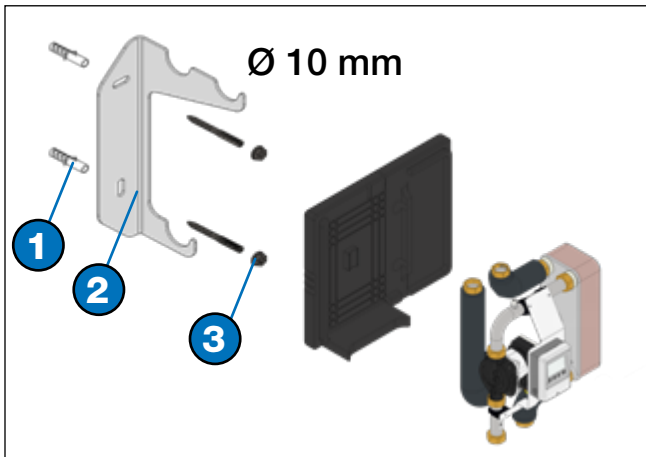

Fig. 8-3: Fitting the domestic fresh water unit to the wall
- Observe Fig. 8-3 for steps 4 to 7.
- 4. Insert the wall plugs (item 1).
- 5. Screw the hanger bolts (3) into the wall plugs.
- 6. Fit the wall bracket (item 2).